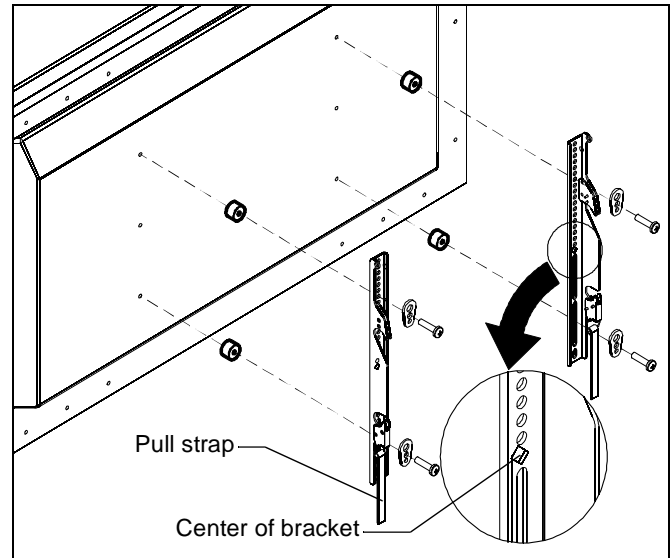

Figure 4
1. Align the center of the bracket with center of screen. (See Figure 4)
2. Select correct screws, spacers (if necessary) and universal washers from the hardware bag (A-N) or (Y) and attach brackets to back of screen. (See Figure 4)